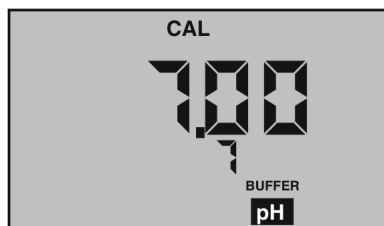

Figure 3
4. Press  to enter calibration mode. The "CAL", "BUFFER" and "7" annunciators will appear (see Figure 3). Displayed value will be the uncalibrated sensor.